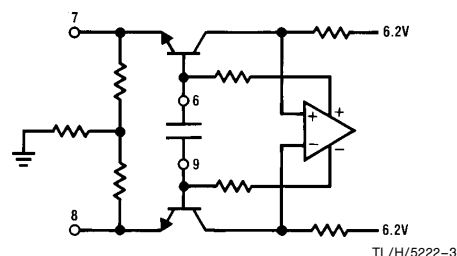

FIGURE 1. IF Input Stage
**Pins 6–9-IF Input and Decouple Pins:** The LM1823 uses a common-base differential input stage as shown in *Figure 1*. Pins 7 and 8 connect directly to the emitters of the input devices, while pins 6 and 9 decouple the DC feedback loop at the bases.